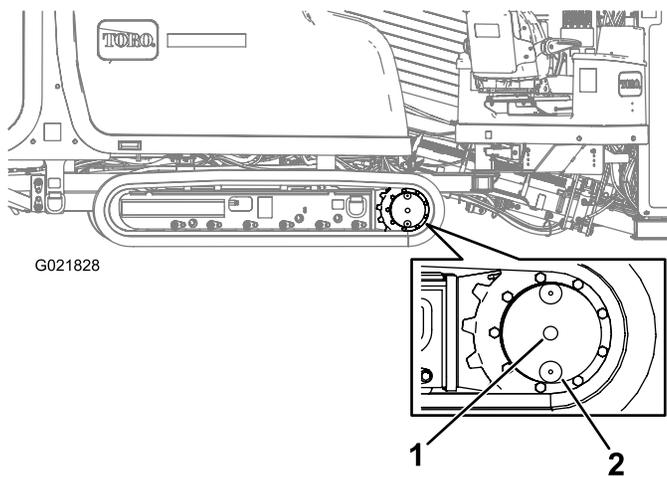

Figure 100
2. Clean the area around the oil-level plug with a cleaning solvent (Figure 100).
3. Remove the oil-level plug (Figure 100).
2. Clean the area around the oil-level plug (Figure 100).
3. Rotate the planetary drive until the oil-drain plug is directly below the oil-level plug (Figure 100).